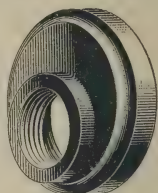

FIG. 32
**coupling**, is shown in Fig. 32. It is used to facilitate the draining of a horizontal pipe and to preserve the bottom alinement. These fittings are only made with right-hand threads.